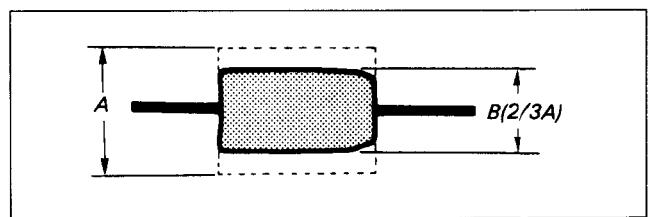

Fig. 7-76.
- 4) Set the SEL switch of the track shift & monitor jig to ON, then turn the track shift knob until the RF waveform amplitude is $2/3$ (See Fig. 7-76.)